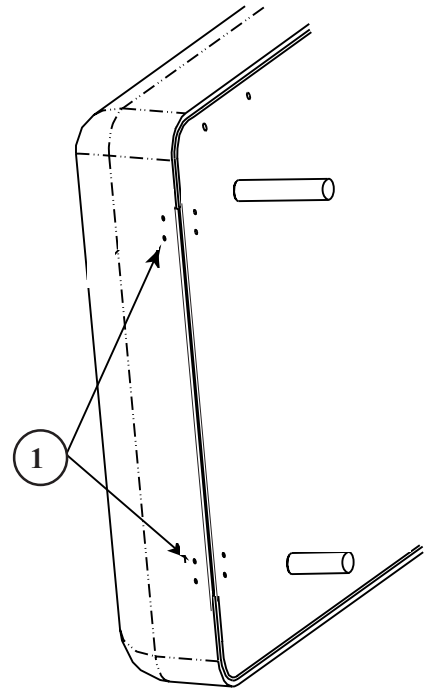

Figure 1
1) Locate and remove the plugs (4) on the back of the non-operator side guard.(See figure 1, Item 1) These holes are for mounting the rear sound cover door.